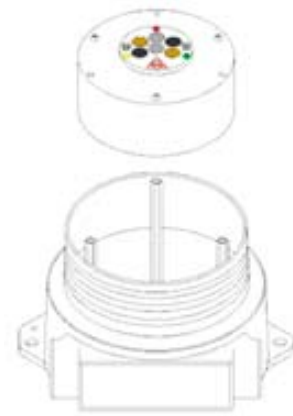

Figure 2-9
- Slide the Detector Module puck out of the enclosure base (see Figure 2-9).